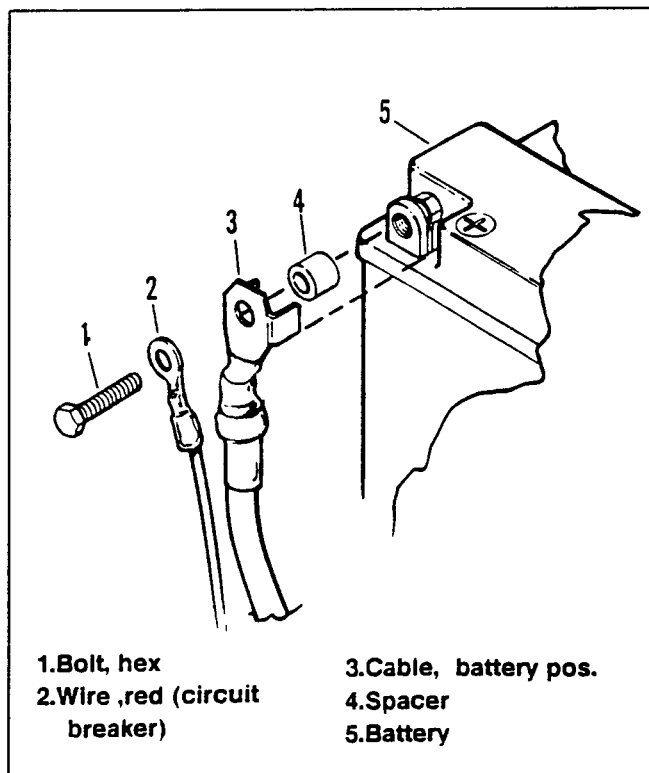

Figure 3. Positive Battery Terminal
10. Hold battery on top of battery carrier. See Figure 3. Attach positive battery cable and red wire from circuit breaker to battery with bolt spacer and nut.